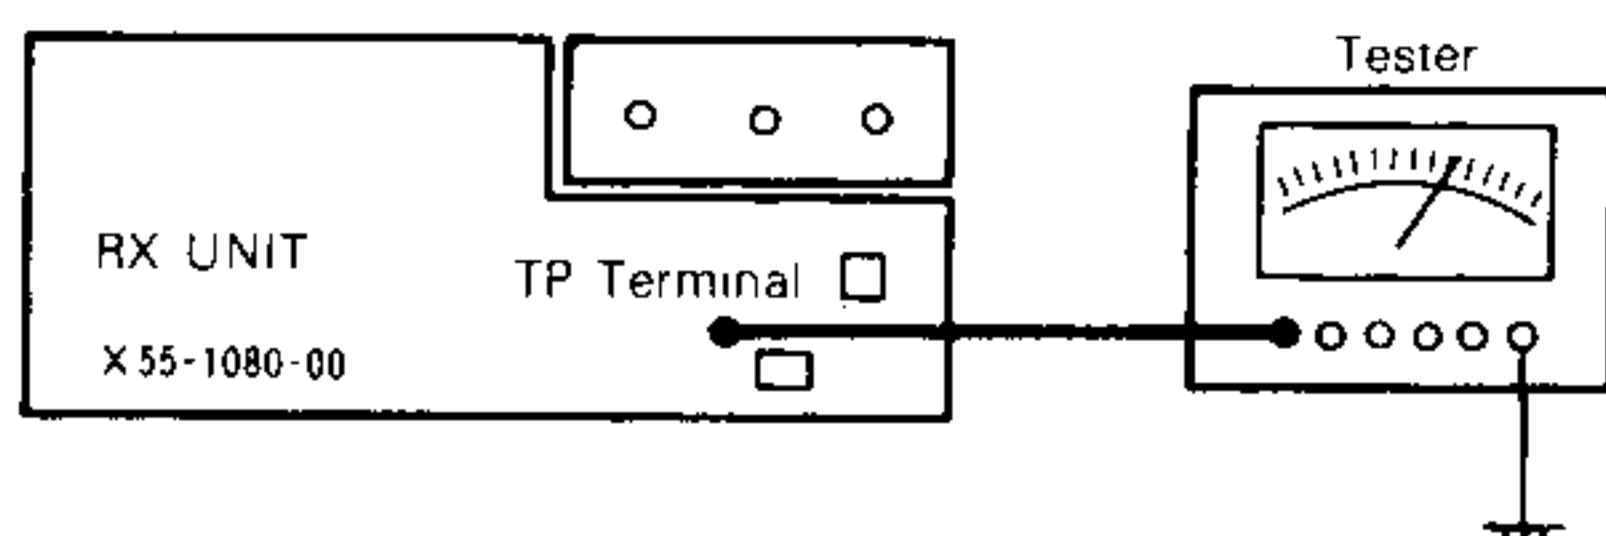

FIG. 17 NB ADJUSTMENT
- Connect a voltmeter (or tester) to the TP terminal on the RX unit (Fig. 17). Set the SSG input to 20 ~ 30dB and then adjust L17 and L18 for minimum reading on the voltmeter. During the adjustment, the AF waveform should be about 1.000Hz.